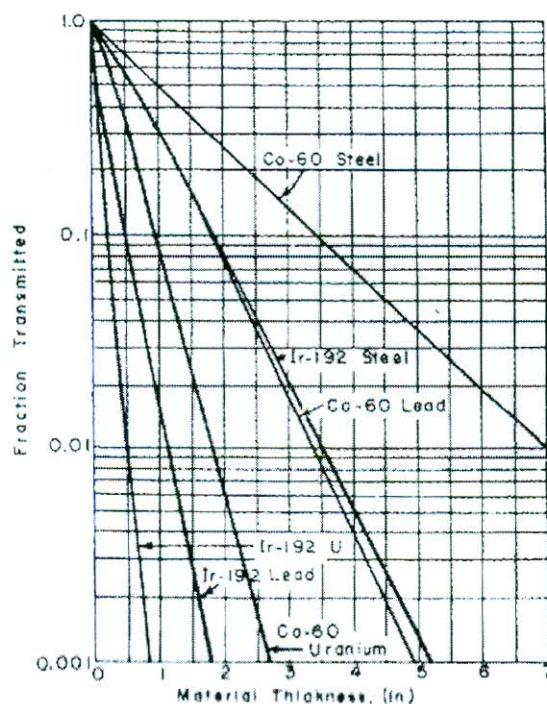

Figure 2
3. [a] Figure 2 shows fraction transmitted of X-ray for different material. Explain how to interprete this graph and discuss the importance of this data in industrial radiographic testing.